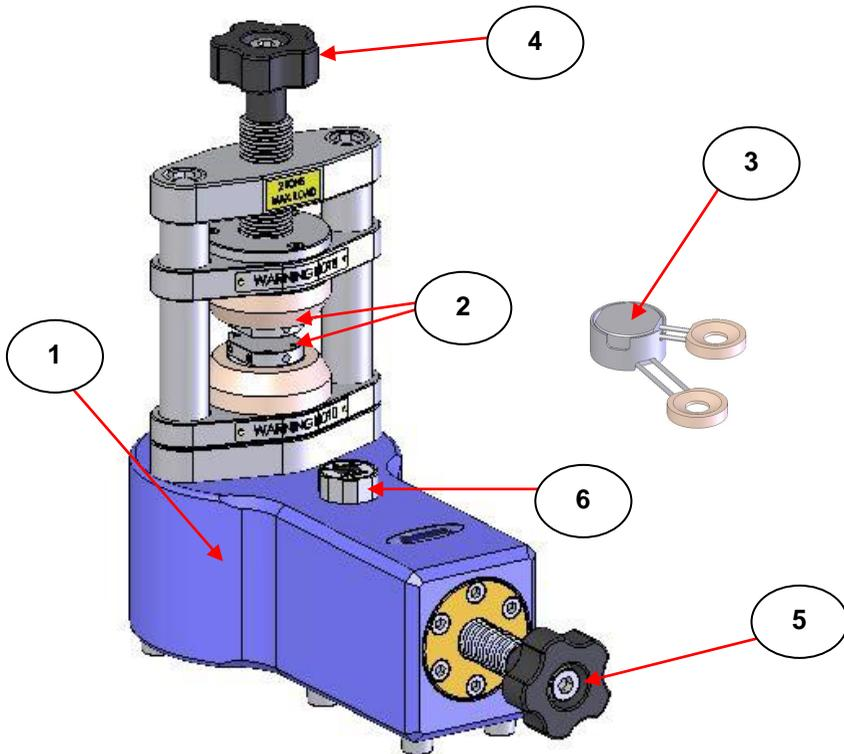

Fig 2. Mini-Film Maker Press (1) and Mini-Film Maker Assembly (3)
The Mini-Film Maker Press (1) has been designed to produce up to a maximum 2 tons load to the heated pressing surfaces (2) for a sufficient force to compress a melted polymer sample contained in the Film Maker Assembly (3). (See Fig 2.) To make a thin film within the Mini-Film Maker Kit, typically a 0.5 Ton load is applied from the press (1) itself.